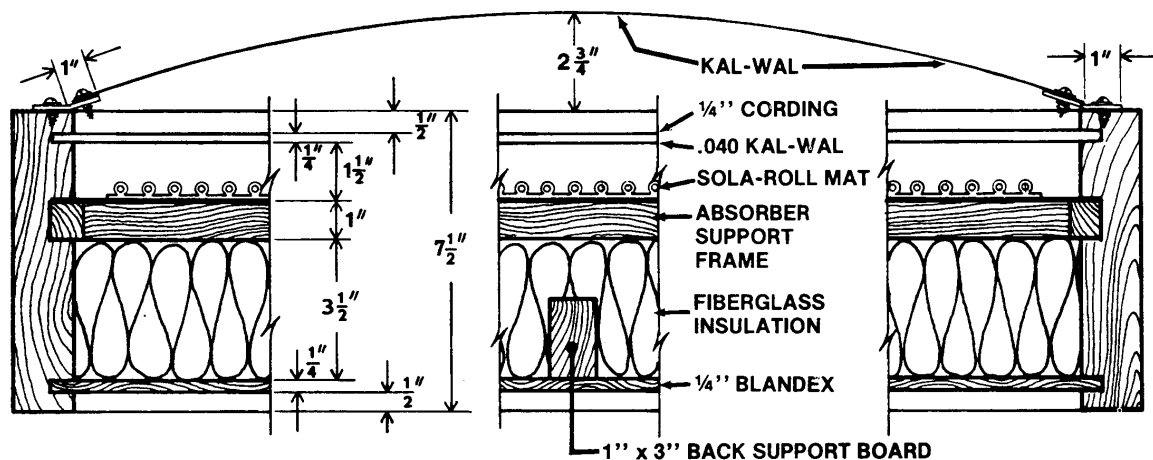

FIGURE 8: CROSS-SECTION OF LIQUID COLLECTOR
3. Cut groove in 2 x 8's as shown on Figure 8. One $\frac{1}{4}$ " wide groove accommodates the inner cover plate; the other $\frac{1}{4}$ " groove holds the chipboard backing panel. The 1" groove holds the absorber support frame. All grooves are $\frac{1}{2}$ " deep.